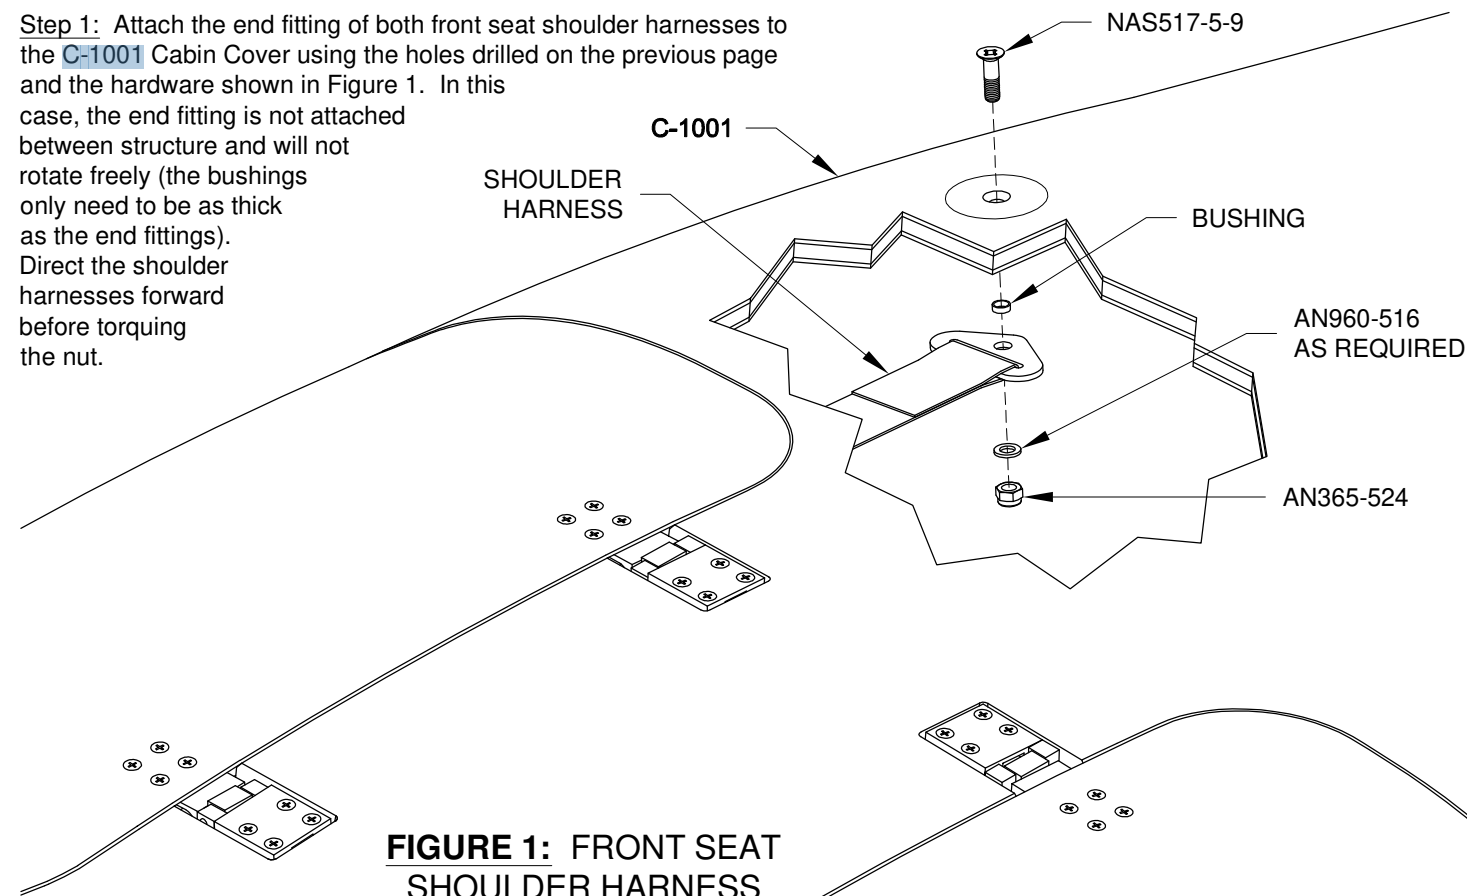

FIGURE 1: FRONT SEAT SHOULDER HARNESS
Step 1: Attach the end fitting of both front seat shoulder harnesses to the C-1001 Cabin Cover using the holes drilled on the previous page and the hardware shown in Figure 1. In this case, the end fitting is not attached between structure and will not rotate freely (the bushings only need to be as thick as the end fittings). Direct the shoulder harnesses forward before torquing the nut.